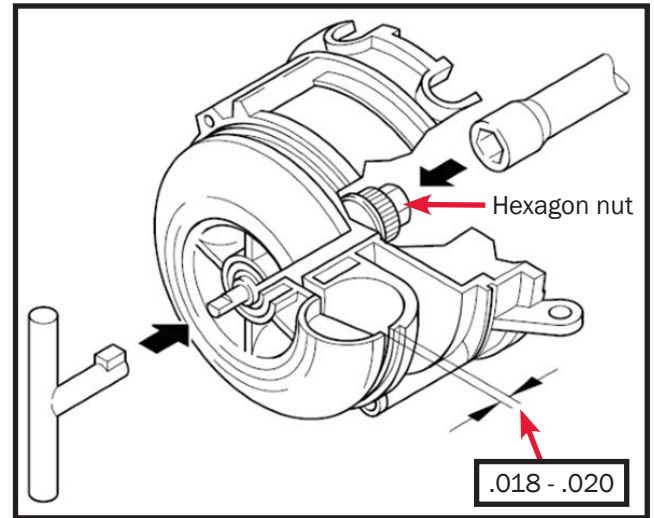

Figure 112a
- Place a feeler gauge between the combustion air blower and the flat surface of the blower casing. Slowly tighten (or loosen) the retaining nut, holding the combustion air blower, until a .018 - .020 gap is achieved. Remove feeler gauge. Reference Figure 112a.